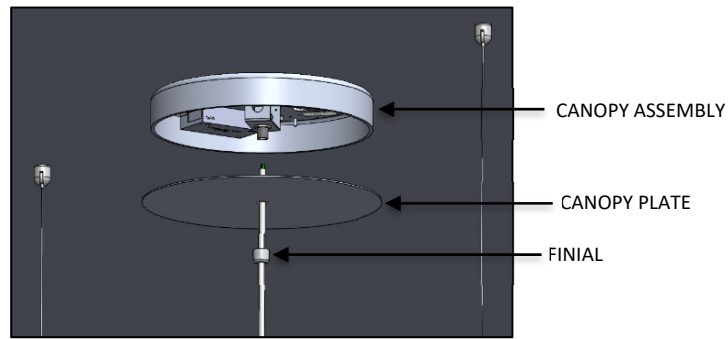

FIG. 22 - FINIAL INSTALLATION
15. Raise CANOPY PLATE and secure to ceiling by threading the FINIAL until fully seated as shown in FIG. 22.